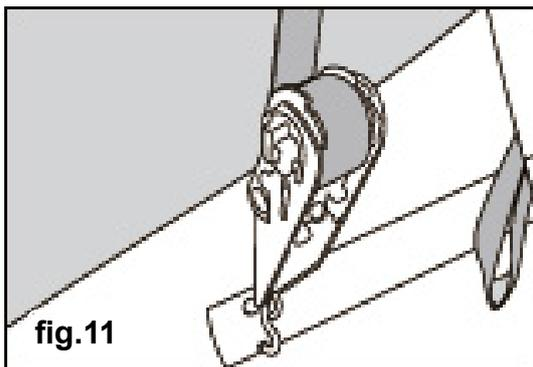

fig.11
- 4.7.10. Next insert the S-hook of the ratchet into the hole in the corner leg, and ratchet up/down a couple of times to hold the ratchet and belt in place, see fig.11.